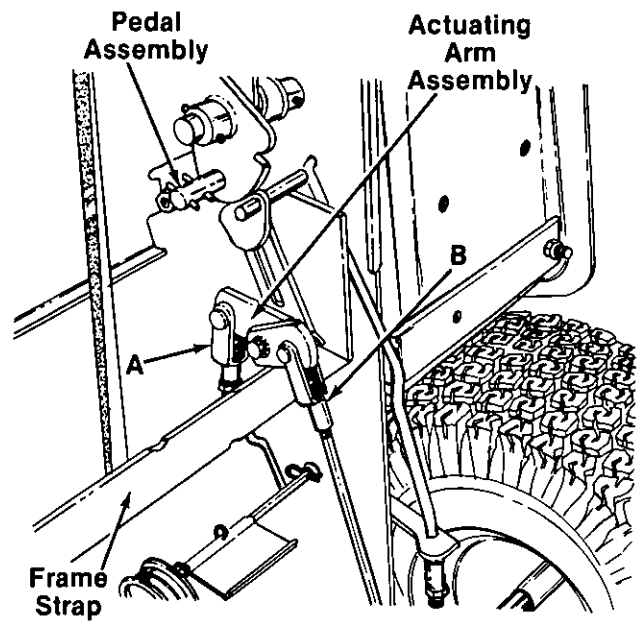

FIGURE 17.
NEUTRAL ADJUSTMENT FOR THE SPEED CONTROL LEVER (See figure 17.)
Spring from pedal assembly to frame strap was removed in figure 17 for clarity only.
1. Remove the cotter pin and clevis pin from turnbuckle (A) at actuating arm assembly. See figure 17.
3. Retighten hex nut and reassemble the clevis pin and cotter pin and spread. See figure 17.
2. Remove the cotter pin and clevis pin from turnbuckle (B) at actuating arm assembly. See figure 17.
6. If rear wheels do not turn, turnbuckle (B) is adjusted properly.
8. Secure the clevis pin with cotter pin and spread. See figure 17.